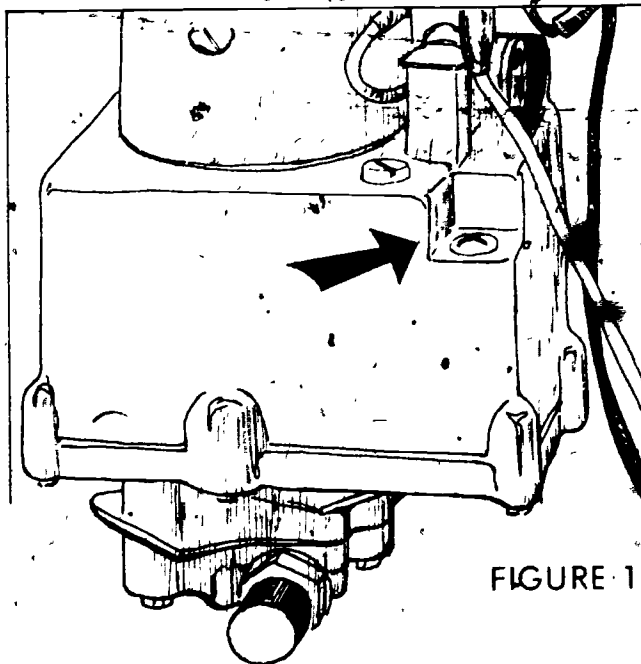

FIGURE 1
- 2. Remove "fill" plugs (Figure 1)